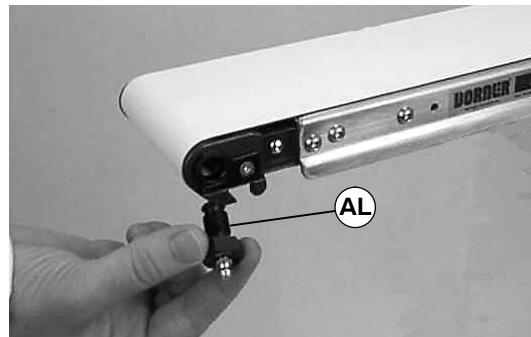

Figure 19
2. Install Dorner greasing adapter (part # 200046M) (AL of Figure 19). Make sure the adapter shoulder is seated against the conveyor tail plate.